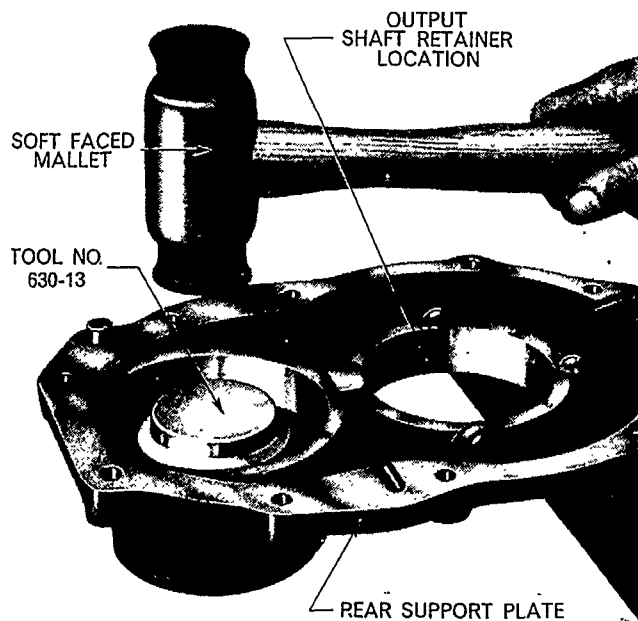

Figure 68
2. Examine the rear support plate and the P.T.O. drive shaft rear oil seal and if necessary remove the seal using Tool No. 630-13 (reversed) and a soft faced mallet. Install a new oil seal after lightly greasing the sealing lip, with the same Tool, Figure 68, and secure with the snap ring.